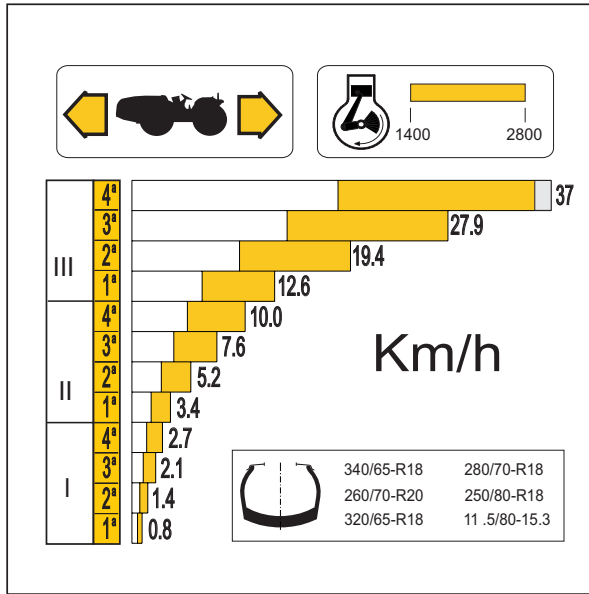
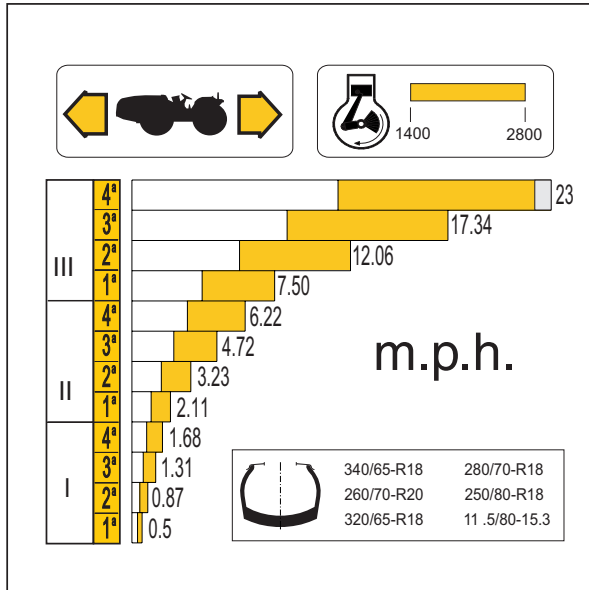

Fig. 5.21
Fig. 5.22
The decal (123) just under the steering wheel on the right indicates the perfect progressions of the gears without speed overlapping both in forward and reverse, with the indicated tires and engine rpm (Fig. 5.21 and Fig. 5.22).